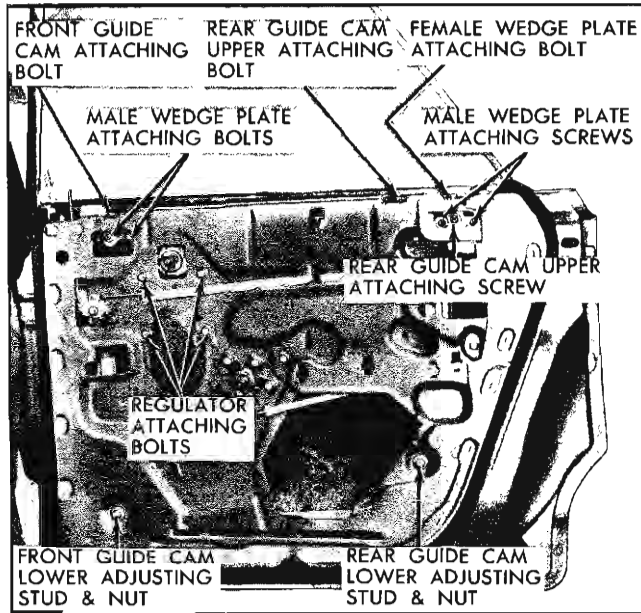

Fig. 52—Rear Door Hardware
- On 39 styles, equipped with electric window regulators, loosen rear guide cam upper attaching screw and bolt and remove lower adjusting stud and nut. This is necessary to move lower section of rear guide cam rearward far enough to permit removal of electric window regulator and motor assembly. Figure 52 shows the rear guide cam attachments and is typical of rear guide cams equipped with power windows.
5. Remove regulator attaching bolts (four), disengage balance arm from inner panel cam and remove regulator assembly through large access hole (fig. 52).
2. Through inner panel access hole remove front guide cam upper attaching screw(s) and front guide cam lower adjusting stud and nut (fig. 52).
2. Raise door window. Through inner panel access hole remove front guide cam upper attaching bolt (fig. 52).